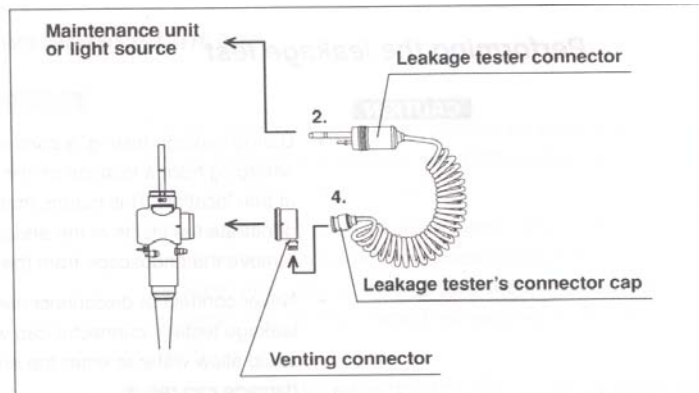

Figure 3.15
4. Attach the leak testers connector cap to the venting connector of the video cap. (see Figure 3.15)